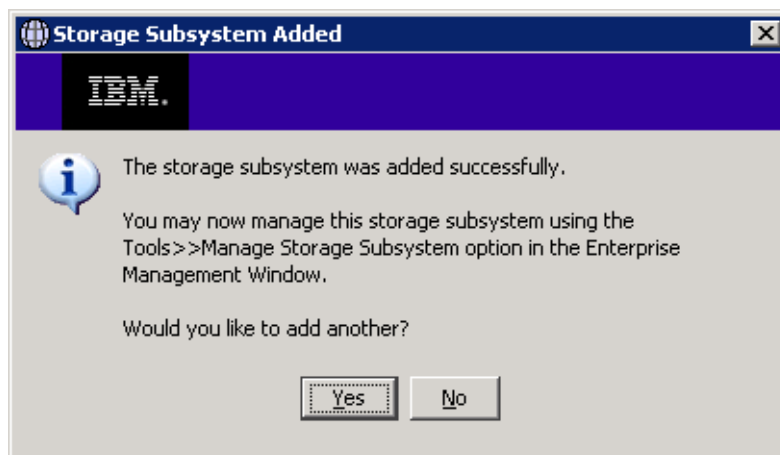

Figure 5-23 Storage Subsystem Added
3. Click **Add**. The storage subsystem will be added to the Enterprise Management window and you will receive confirmation, as shown in Figure 5-23. The dialog box offers an opportunity to add another storage subsystem. As this is the only DS3000 we want to add at this point, we click **No**.